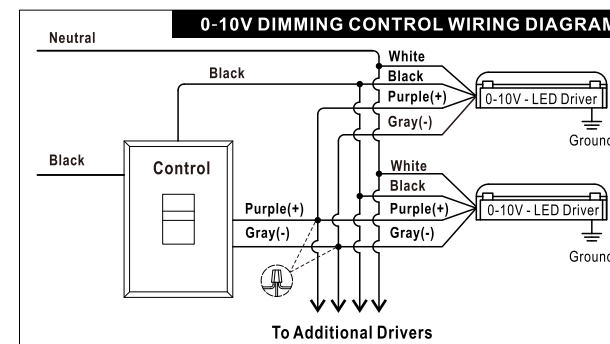

Fig.6
10. Electrical Connections: Connect green/or bare copper wire to the green ground wire of Fixture. (Ground wire must be properly attached or unit may not work). Connect the white supply wire to the white fixture wire, cover them with a wire nut/or twist together and cover really well with Electrical tape. Connect the black supply wire to the black fixture wire, cover them with a wire nut/ or twist together and cover really well with Electrical tape. (Fig.6)